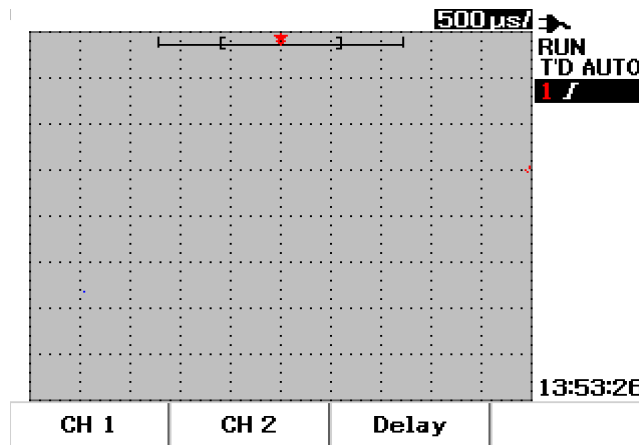

Figure 3-1 Scope menu display with displayed of both channels display.
- 1 Press button on front panel to access Scope menu. You will see the following scope menu display in Figure 3-1, which shows both channels disabled.